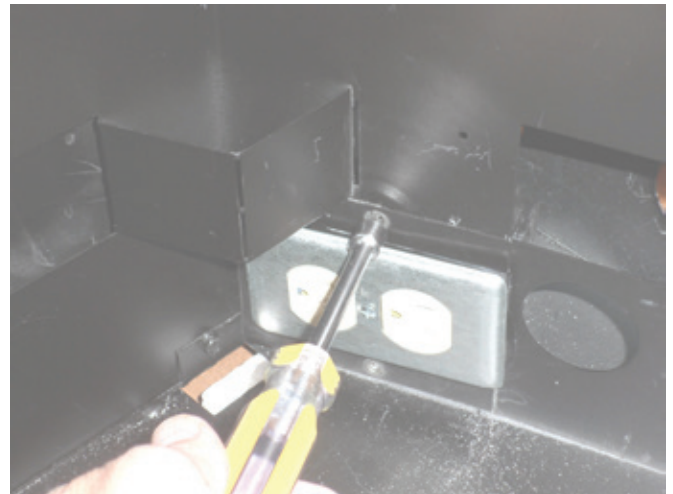

Figure 22
6. Once the junction box wiring is completed, re-install the junction box into the lower right corner of the firebox cavity using the screws removed in step 4 as shown in **Figure 22.**